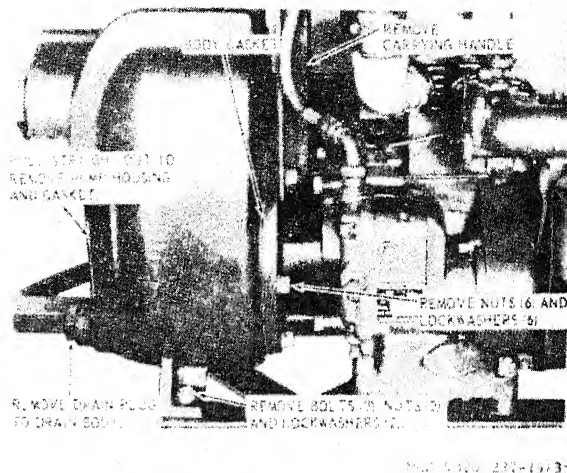
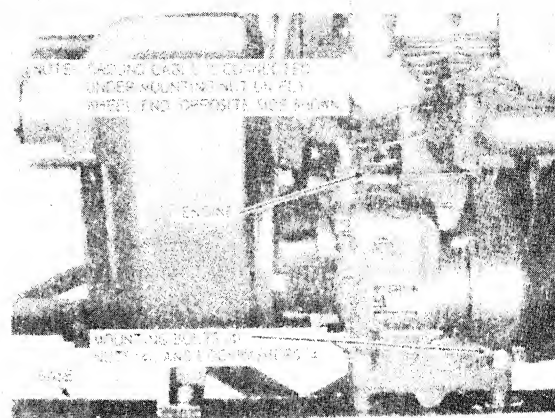
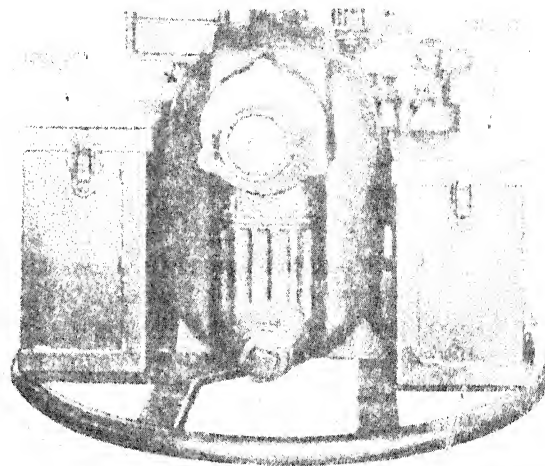

Figure 35. Pump housing, removal and installation.
Figure 37. Engine, removal and installation.
Figure 38. Tool boxes, removal and installation.
e. Tool Box and Housing Installation. Refer to figure 38 and install the tool boxes, and to figure 35 and install the pump housing.
a. Removal. Refer to figure 38 and remove the tool boxes, and to figure 37 and remove the engine.
- (1) Clean the engine with a cloth dampened with an approved cleaning solvent; take care to remove all greasy and oily deposits.
- (2) Inspect the engine for missing components and visible damage. Using the starter rope, turn the engine crankshaft over slowly and check for scraping or binding.
- (3) With the ignition switch in the OFF position to prevent engine starting, turn the engine crankshaft over with the starting rope to check for compression.
- (4) If normal compression resistance is not noted, or if engine binds or scrapes when the crankshaft is rotated slowly, report to direct support maintenance.
c. Installation. Refer to figure 37 to install the engine, and to figure 38 to install the tool boxes.
- STEP 2. INSTALL BODY (FIGURE 35) AND CHECK IMPELLER FOR RUBBING AS BODY NUTS ARE TIGHTENED. IF RUBBING OCCURS, REMOVE BODY AND SUBSTITUTE 1/32 INCH BODY GASKET AND REINSTALL BODY. CONTINUE TO ADD BODY GASKET THICKNESSES IN 1/64 INCH INCREMENTS UNTIL RUBBING CEASES AND IMPELLER IS FREE.
a. *Removal.* Refer to figure 38 and remove the tool boxes.
- (1) Clean the tool boxes with a cloth dampened with an approved cleaning solvent. Wipe dry.
- (2) Inspect the tool boxes for cracks, enlarged mounting holes, damaged or sticking hinges, severe dents, and other damage. Lubricate sticking hinges with light penetrating oil. Replace a damaged tool box.
c. *Installation.* Refer to figure 38 and install the tool boxes.